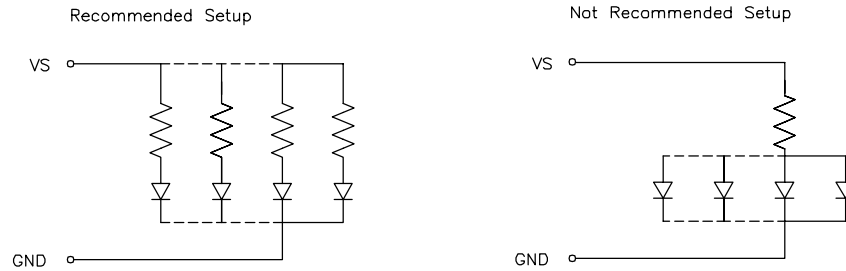

Fig. 10
- 5. When LEDs are mounted in a parallel configuration, there should be individual current-limiting resistors in series with each LED. Refer to below diagram (Fig.10) for an example of a recommended set up.